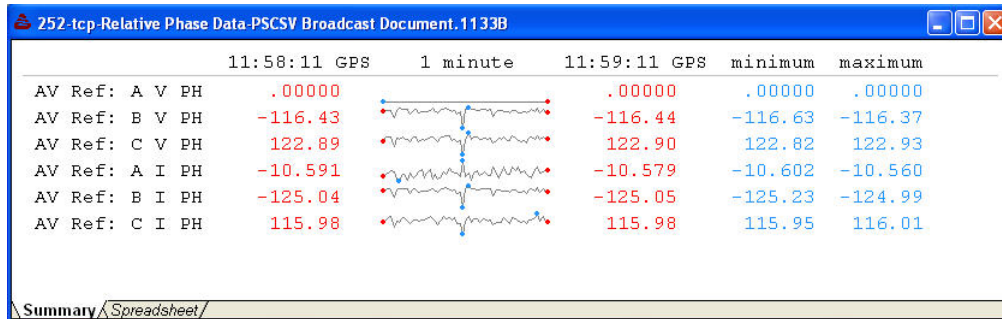

Figure 9.13: Phase Summary Data Screen
Use Phase Data to compare any voltage or current phase angle using A-phase voltage or A-phase current as the reference. When selected, all phase data from every input signal is delivered to the Relative Phase window. Phase Data are synchronized to the GNSS, sent out real time at a rate of once-per-second and simultaneously saved in a file of choice. See Figures 9.13 and 9.14.
6. Relative phase readings may be displayed in either Summary or Spreadsheet format, as shown in Figures 9.13 and 9.14. To select these formats, choose View > View As > Real Time (or Spreadsheet), or simply click the Summary or Spreadsheet tab at the bottom of the window.